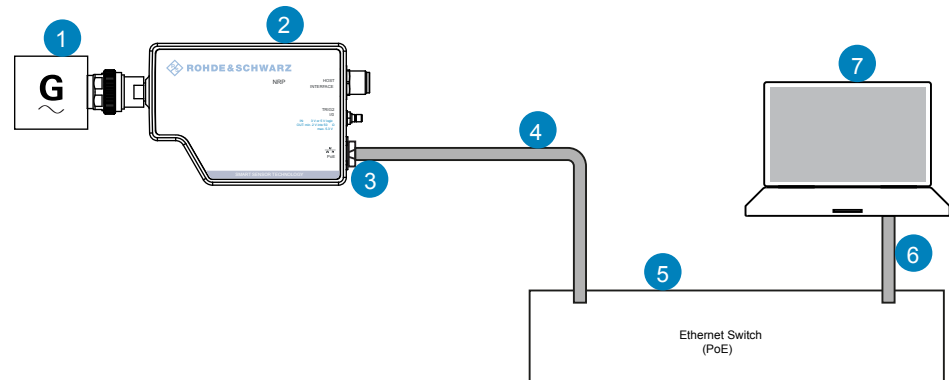

Figure 3-13: Configuration with the WebGUI
1. Connect the cables as shown in Figure 3-13.